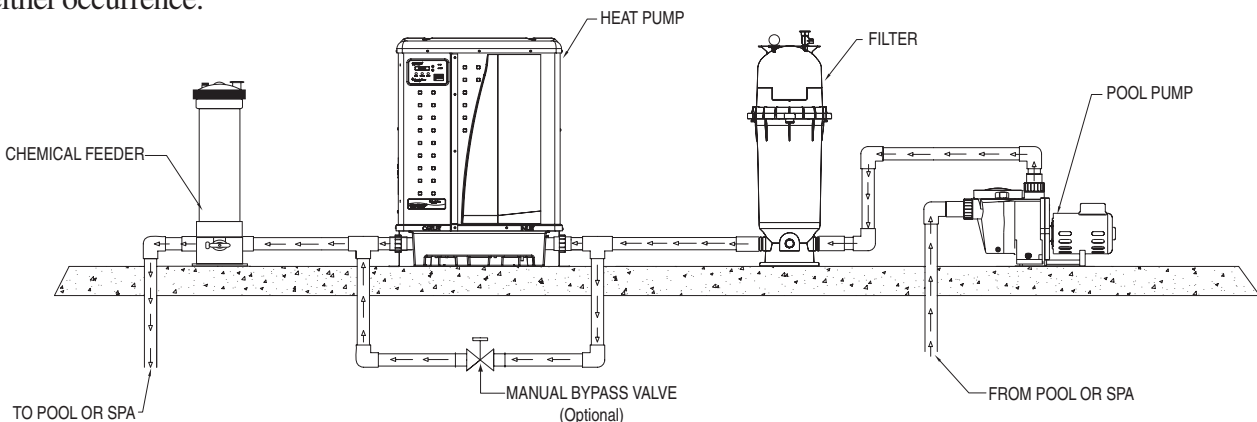

Figure 6. Standard Plumbing Layout
See Figure 6, illustrating the standard plumbing layout with a single heat pump unit. Following the diagram from right to left, the plumbing sequence is as follows:
The heat pump must be protected from back-siphoning of water. If there is any chance of back-siphoning, provide an optional manual bypass valve between the pool and the heat pump outlet. Arrangement of pool system components other than as illustrated in Figure 6 and the following diagrams can affect the operation of the heat pump's water pressure switch. Location of the heat pump above or below the pool water surface can also affect operation of the switch. In general, the pressure switch can be adjusted to accommodate this effect if the heat pump water connections are no more than six (6) feet below the pool water surface or no more than fifteen (15) feet above it. See instructions for pressure switch adjustment (page 16) in the heat pump start-up section of this manual for more information. If the heat pump is installed outside of this range, an external pressure switch may need to be installed in the plumbing upstream of the heat pump. Call the Pentair Water Heat Pump Technical Service department at (800) 831-7133 for details.
The inlet/outlet header of the heat pump comes equipped with an internal automatic flow control valve. The automatic flow control valve maintains the proper flow through the heat pump at rates up to 100 gpm (380 lpm). If the filter system flow rate is higher than 100 gpm (380 lpm), install a manual bypass valve, see Figure 6 on page 7.